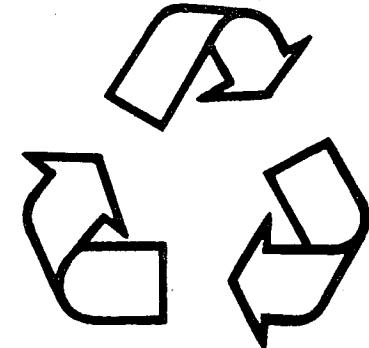

Fig. 18—Dispose of Fluids Properly
- Properly store and dispose of hazardous materials such as battery acid (Fig. 18). Do not pour battery acid down a drain or into a stream, pond or lake.